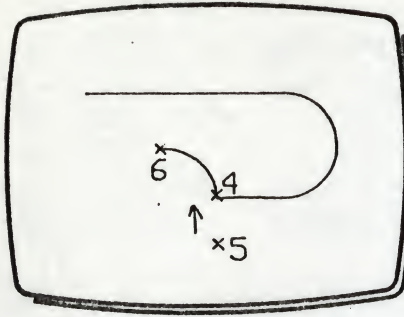

Fig 3
- 13 Move XY to position the dynamic cursor at (5) in Fig 3.
- 15 Move XY to return the origin cursor to (4) in Fig 3.
- 17 Move XY to move the dynamic cursor to (6) in Fig 3.